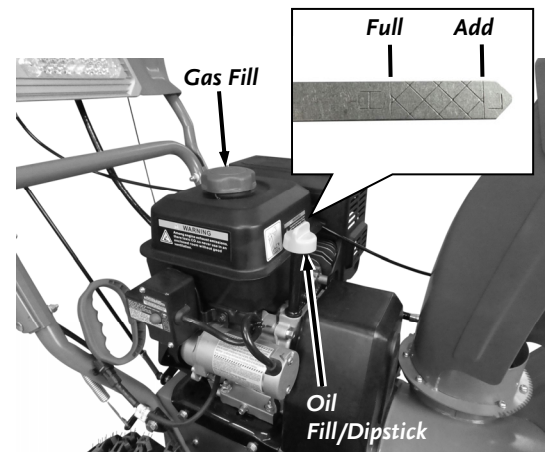

Figure 23
1. Position the machine so the Frame and Engine are level. Remove the Oil Fill/Dipstick (**Figure 23**) and clean the end of it with a rag.
6. Remove the Gas Fill Cap and fill the Gas Tank with fresh, unleaded gas (with a minimum of 85 Octane) to approximately 1" to 1-1/2" below the top of the fill neck to allow for fuel expansion (**Figure 23**). Be careful not to overfill and ensure you reinstall the Gas Fill Cap before starting the engine. See your Engine Owner's Manual for more detailed information.